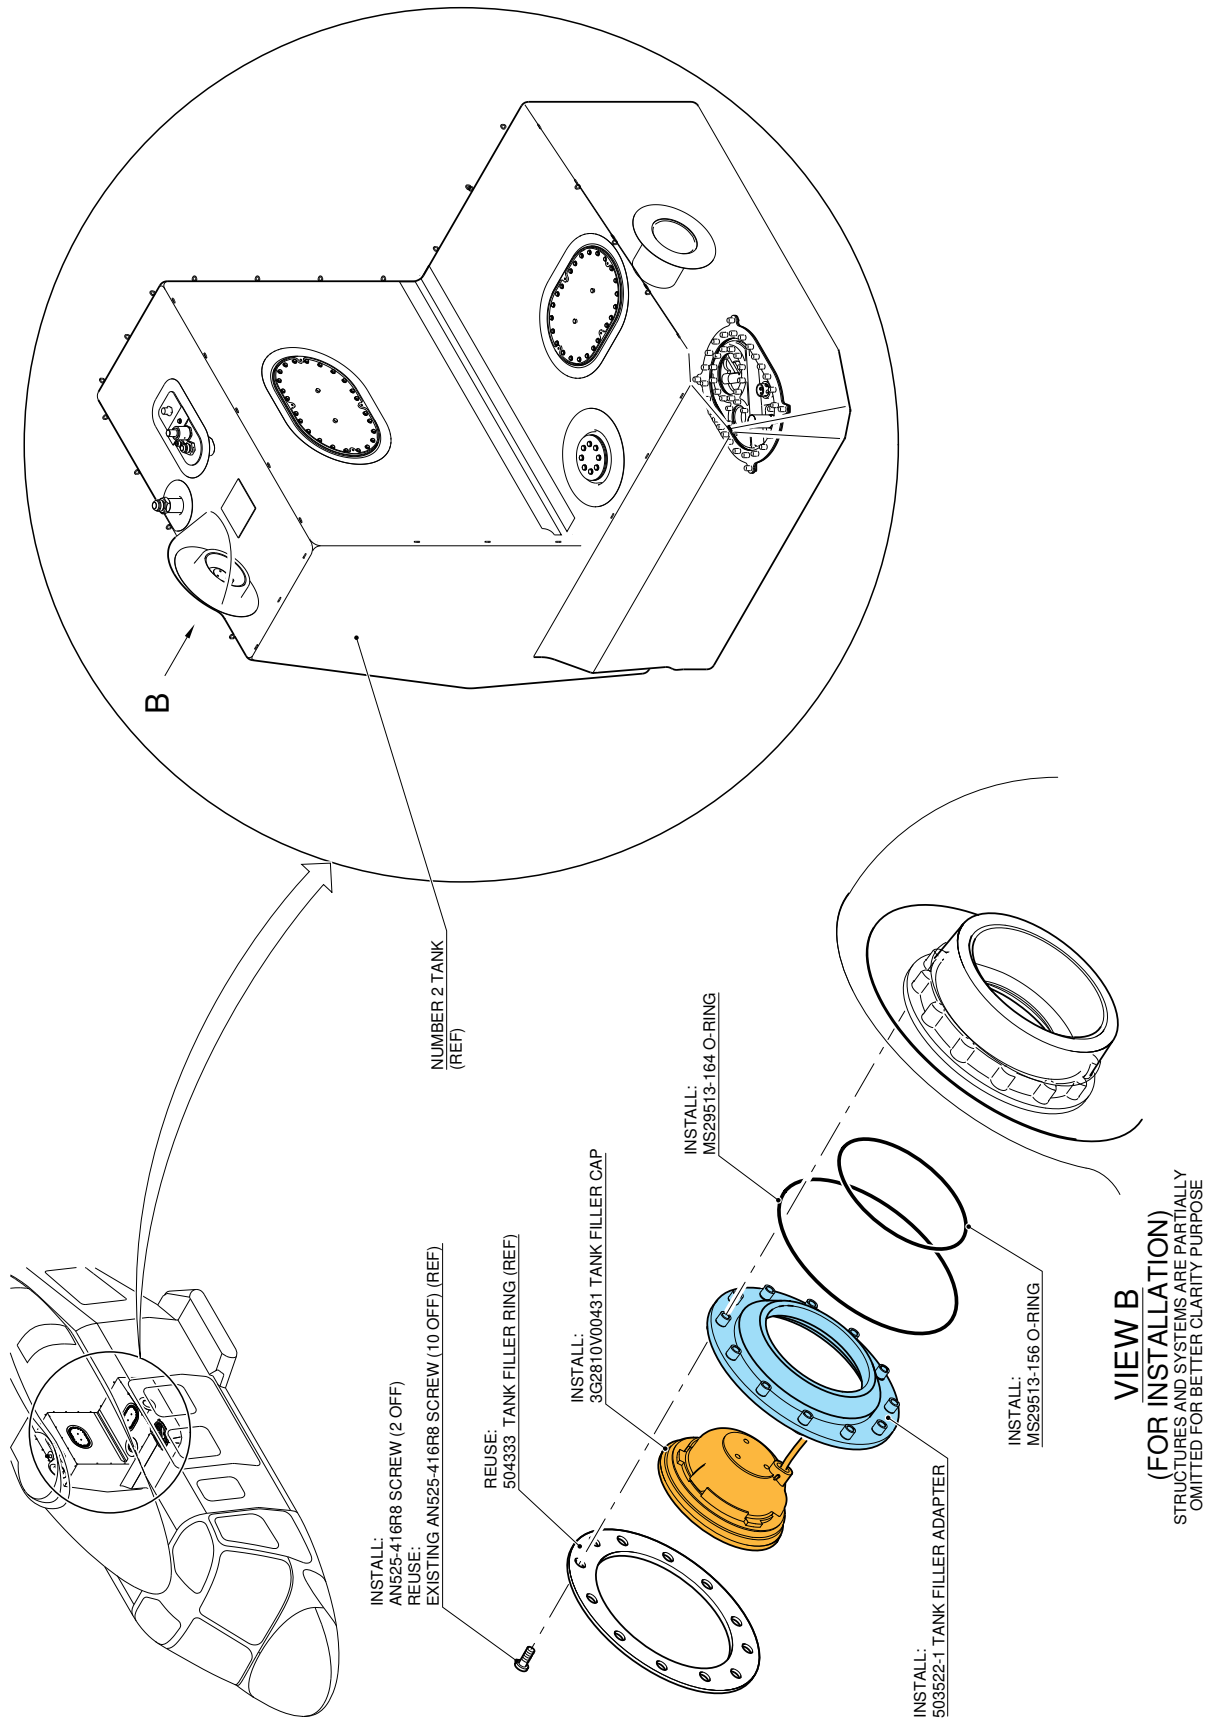

Figure 2
3. In accordance with AMP DM 39-A-28-11-19-00A-720A-A and with reference to Figures 2 View B, install the tank filler adapter P/N 503522-1, the O-ring P/N MS29513-156 and the O-ring P/N MS29513-164.
4. In accordance with AMP DM 39-A-28-11-04-00A-720A-A and with reference to Figures 2 View B, re-install the tank filler ring P/N 504333 by means of n°12 screws P/N AN525-416R8.
5. In accordance with AMP DM 39-A-28-11-03-00A-720A-A and with reference to Figures 2 View B, install the tank filler cap P/N 3G2810V00431.